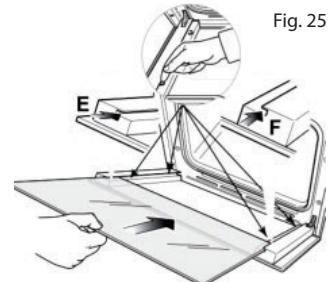
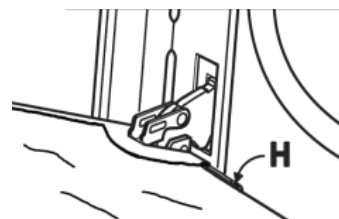

Fig. 25
Fig. 26
- Ensure that four rubber seats are in place (Figure 25).
- - Fit the pane into the left E and right F guide rails (Figure 25) and slide up to the holders H (Figure 26).